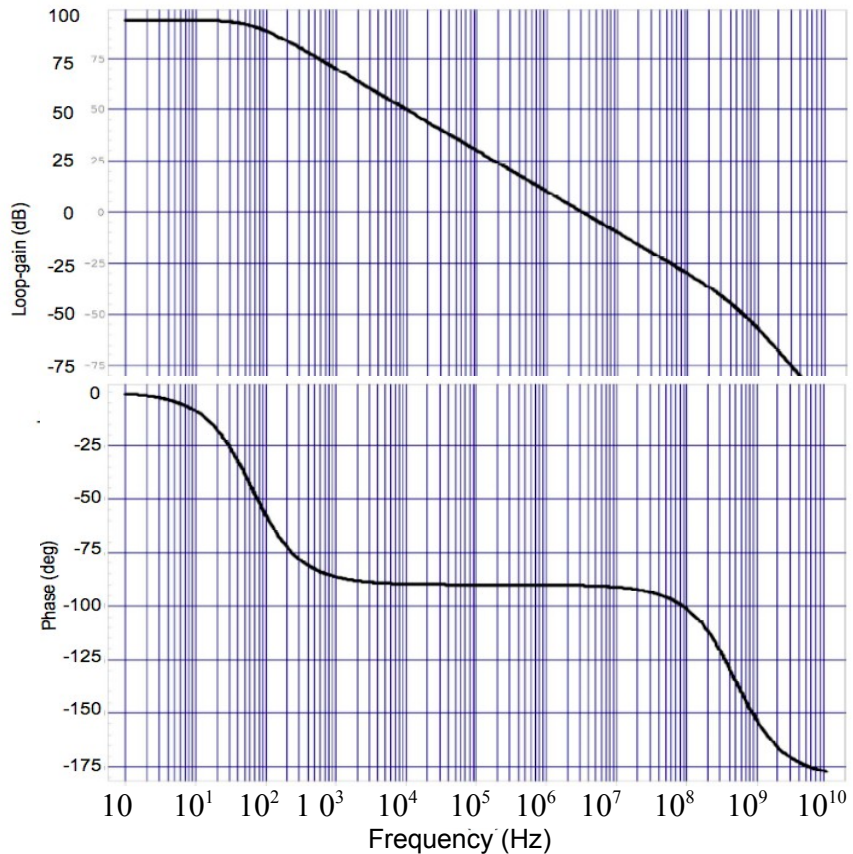

Fig. 2 Loop-gain gain and phase vs. frequency
The gain and phase of the loop-gain for a feedback amplifier has been plotted from experimental data in Fig. 2.
1. Define phase margin w.r.t. the data plotted in Fig. 2. (3 pts)